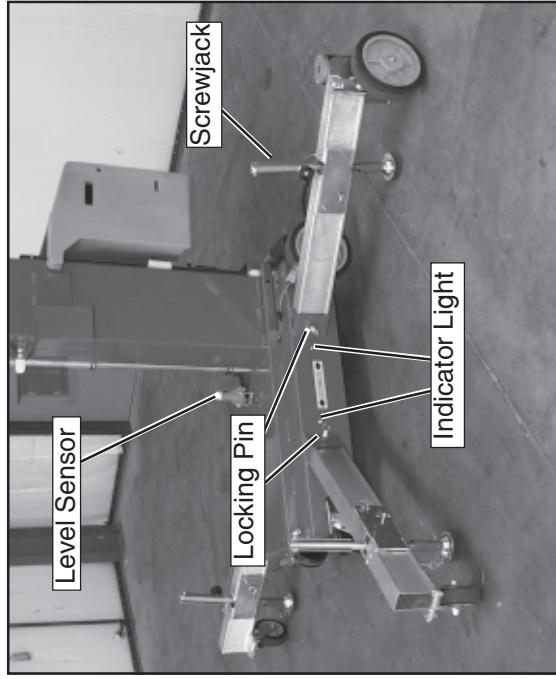

Figure 1: Installing outriggers
2. Insert into outrigger socket in base (Figure 1).
4. Repeat the above steps for all other outriggers. Make sure all four (4) locking pins are engaged.
5. Level the base, centering the bubble in the orbit level on the base by adjusting the screwjacks at the end of each outrigger (Figure 1). DO NOT release the tension on an outrigger, by turning counterclockwise, to level base.
- IMPORTANT:** All four (4) screwjack pads must be in solid contact with a firm surface and each outrigger indicator light must be lit before the platform is elevated.